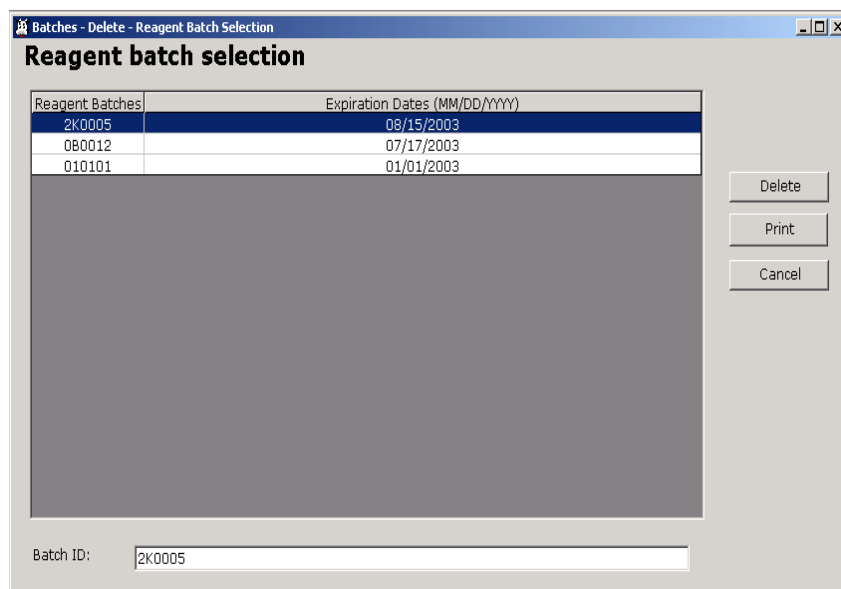

Fig. 6.3-2 : Reagent batch selection
- (2) Select the reagent batch to delete in the list of reagent batch (Fig 6.3-2), then click on “Delete”.